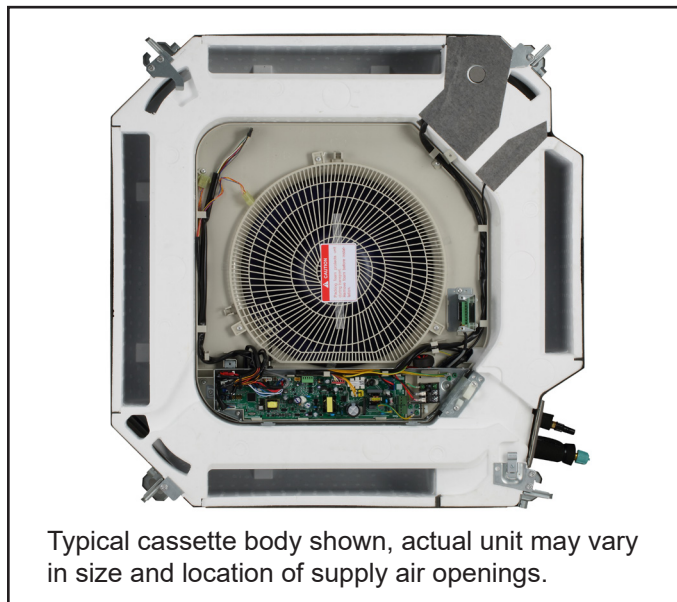

Figure 16. Typical Supply Air Configuration
Supply air is typically provided from all four sides of the cassette unit. See Figure 16.
2. Identify and measure the supply air opening that will be blanked off. See Figure 16.